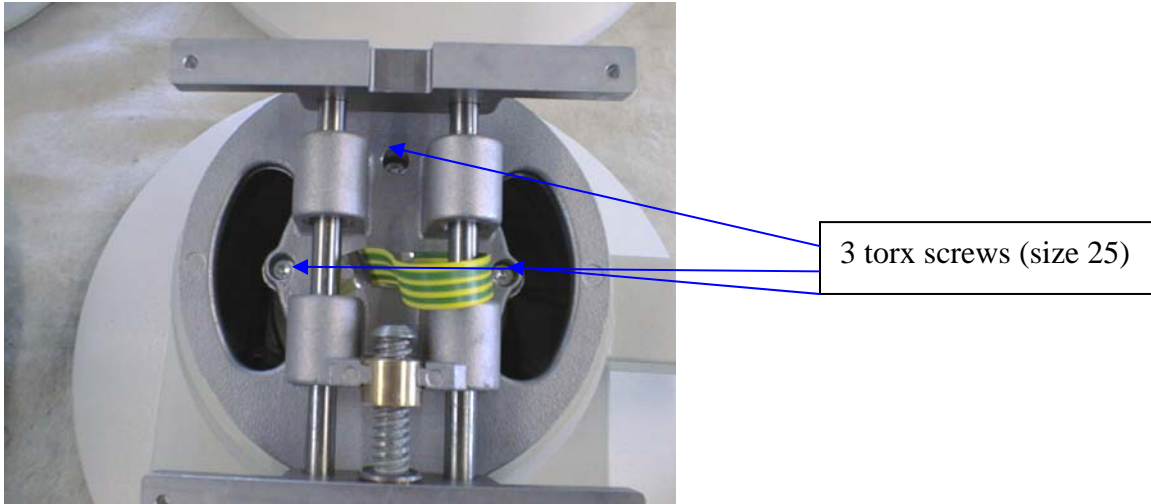

Figure 7-5
- Remove the 3 torx screws (size 25) which are fastened down onto the 'Lift-/ swivel unit' from the top. See Figure 7-5.